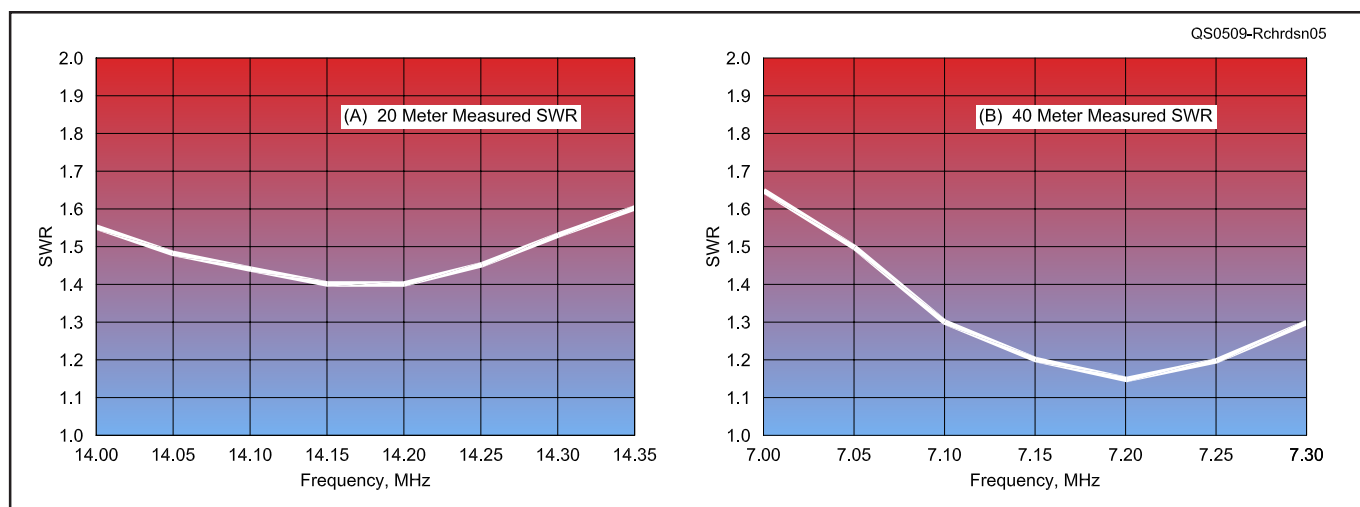

Figure 5—The SWR at 20 meters (A) and 40 meters (B).
tive bands. This process was repeated until satisfactory SWR readings were obtained. (My requirement was to have the SWR fall below 2:1 on both bands. Many solid-state rigs start reducing their power or, worse yet, shut down at an SWR of 2:1.) The resulting SWR curves are shown in Figures 5(A) and (B). I should point out that this system was tuned using a marginal radial system (only twelve radials) and the SWR curves are therefore rather broad. Those curves would be more pro-